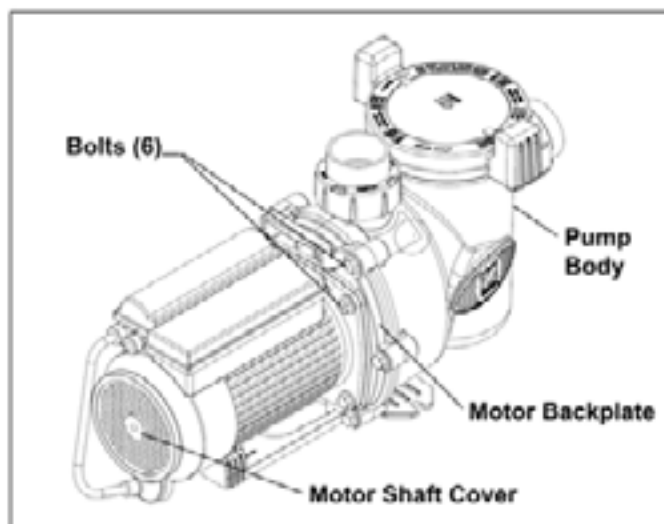

Figure 7. Remove the Pump Housing
3. Using a strap wrench, loosen the bolts connecting the pump body to the motor backplate. See Figure 7.
7. Remove the motor shaft cover on the back of the motor by twisting the hex-head screw with a 90° crescent wrench. (See Figure 7.) The motor shaft will be exposed.